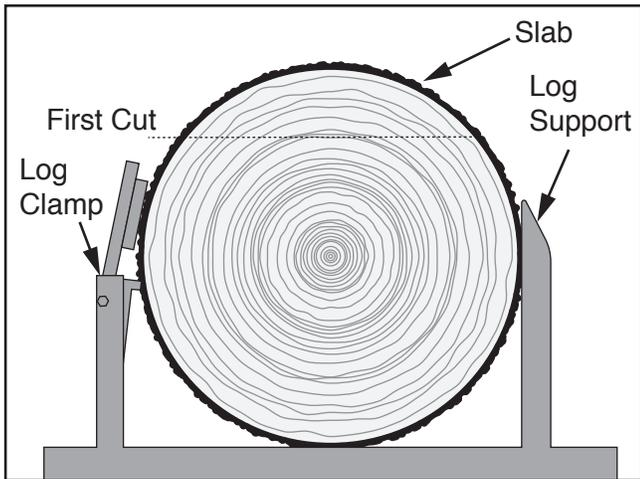

Figure 80. First cut to saw a cant.
3. Cut slab from top of log and remove it (see **Figure 80**).